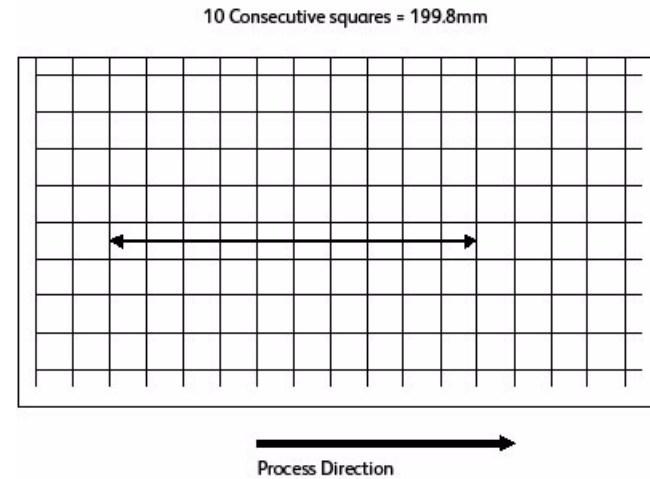

Figure 1 Image Size Adjustment Check
4. Select **dc361 NVM Save and Restore**. The dc361 NVM Save and Restore window opens (Figure 1)
Figure 1 dc361 NVM Save and Restore
7. Check the measured value in process direction of 10 grid squares. The results should be 199.8 mm as in **Figure 1**. If the desired result is not achieved continue with this procedure.